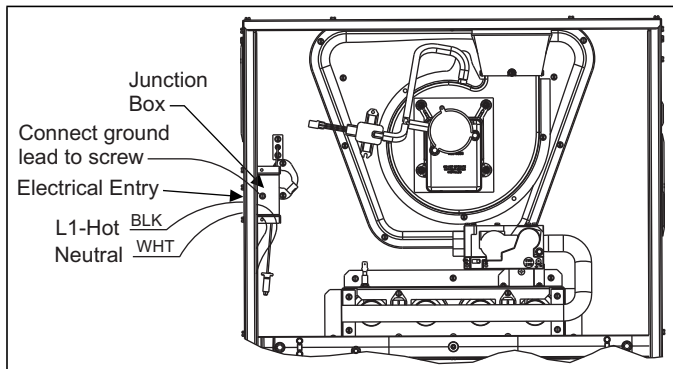

FIGURE 12: Electrical Wiring
2. Remove the screws retaining the wiring box cover. Route the power wiring through the opening in the unit into the junction box with a conduit connector or other proper connection. In the junction box there will be 3 wires, a Black Wire, a White Wire. Connect the power supply as shown on the unit-wiring label on the inside of the blower compartment door or the wiring schematic in this section. The black furnace lead must be connected to the L1 (hot) wire from the power supply. The white furnace screw must be connected to neutral. Connect the power supply ground to the green screw (equipment ground) An alternate wiring method is to use a field provided 2" (5.1 cm) x 4" (10.2 cm) box and cover on the outside of the furnace. Route the furnace leads into the box using a protective bushing where the wires pass through the furnace panel. After making the wiring connections replace the wiring box cover and screws. Refer to Figure 12.
3. The furnace's control system requires correct polarity of the power supply and a proper ground connection. Refer to Figure 12.